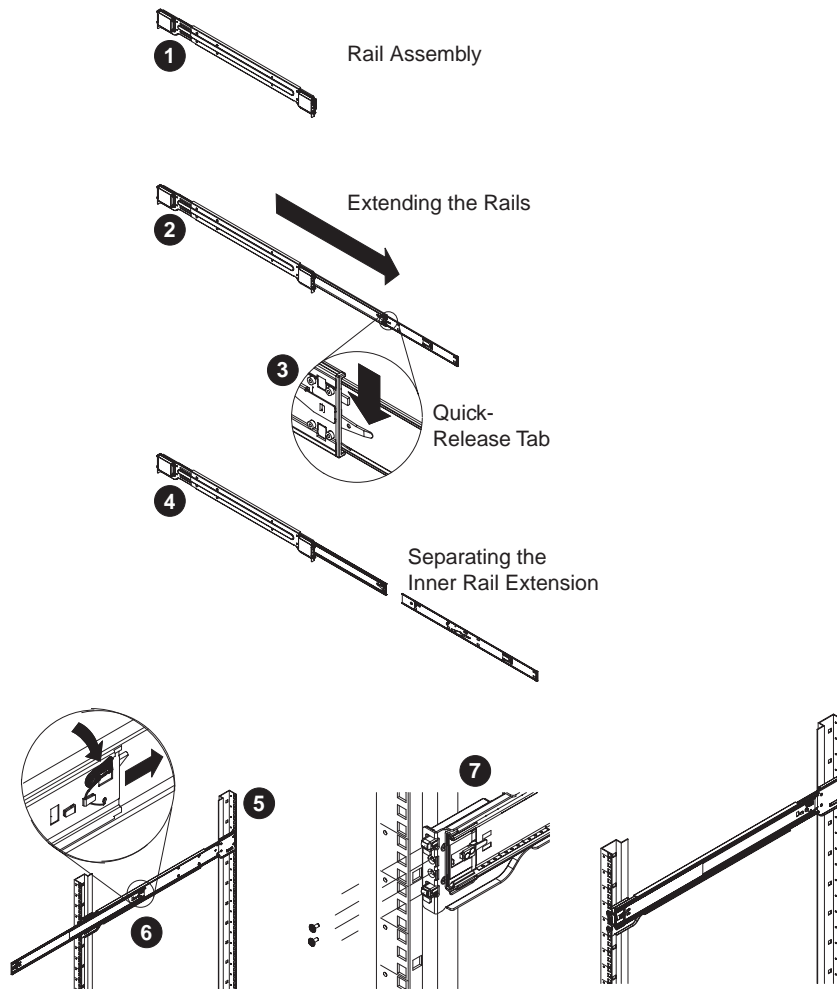

Figure 2-1 Separating and Installing the Rack Rails
1. Locate the rail assembly in the chassis packaging as shown in Figure 2-1.
5. Secure the back end of the outer rail to the rack, using the screws provided (see Figure 2-1).